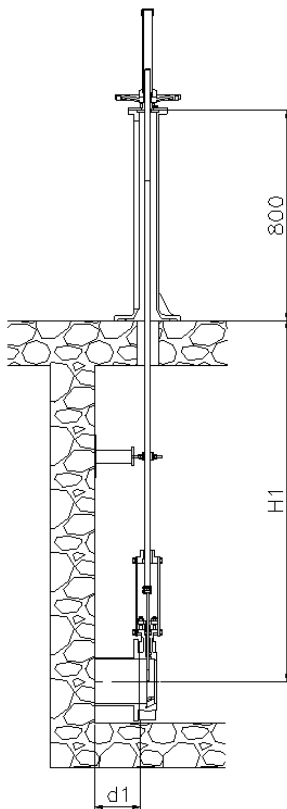

Fig. 9
- The standard floor stand is 800mm high (Fig. 9). Other floor stand measurements available on request: